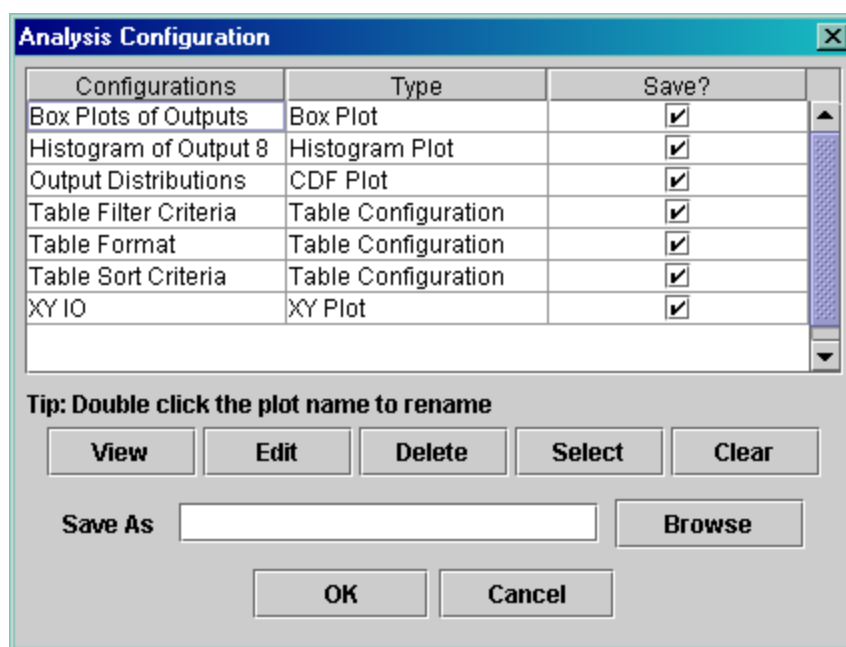

Figure 19. Analysis Configuration Dialog
5. To see that the items in the configuration were imported, click on the Configuration icon  in the toolbar. The **Analysis Configuration** dialog should appear and should look like the one in Figure 19. This dialog shows the configuration that is currently applied to your data set, whereas the Load Configuration Preview dialog showed the items in the configuration file that were available for import.